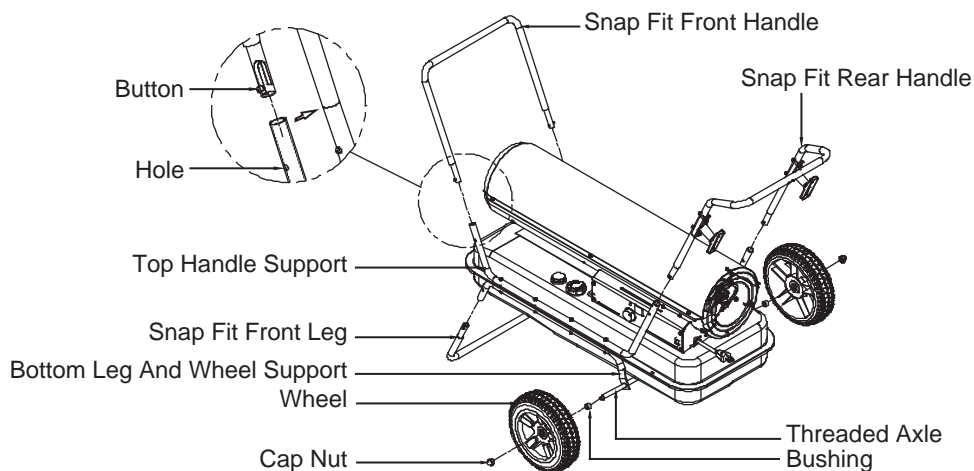

Figure 7. Assembling Handles & Wheels
- 1) Align and insert snapfit front leg in to the front section of the bottom leg and wheel support. You will need to depress the metal buttons when installing. See Figure 7 below.
- 4) Align and insert snapfit front and rear handles to the top support handle. You will need to depress the metal buttons on each handle when installing. See Figure 7 below.